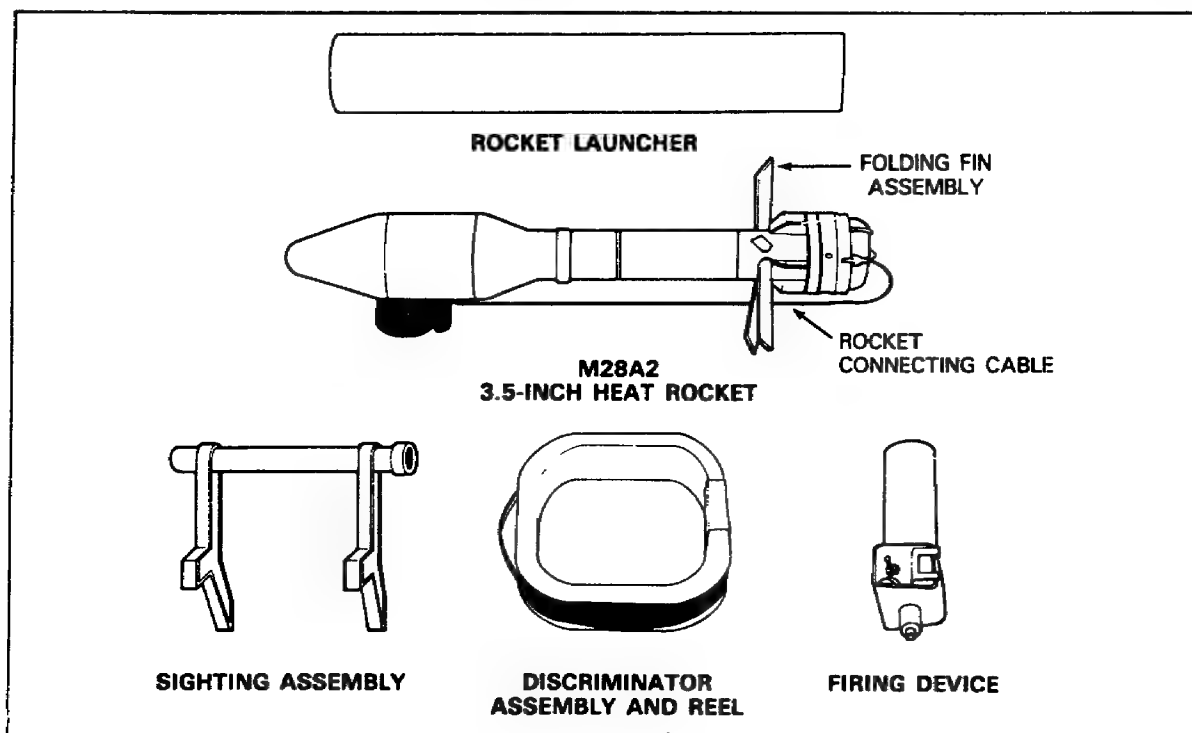

Figure 59. Mine, Antitank, HE, M24.
**Mine, Antitank, HE, M24.** The M24 antitank mine (Figure 59) is an off-route antitank mine operated remotely to defend against all types of enemy vehicles. It consists of a modified 3.5-inch antitank rocket; a launcher (24-inch plastic tube); a sighting assembly (to aim the launcher); a discriminator assembly (discriminator is a cable laid across a route, which when run over, fires the rocket); and a firing device (provides electricity to fire the rocket).